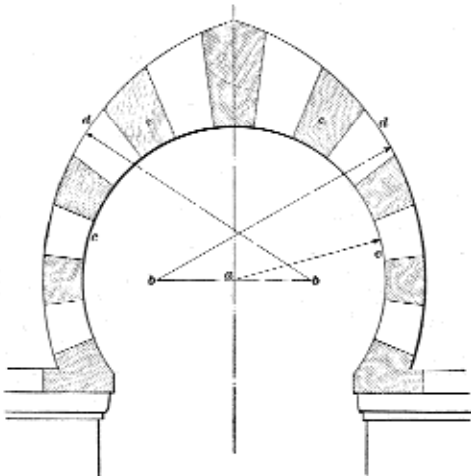

FIG. 53.
98. The *horseshoe*, or *Moorish*, arch is represented in Fig. 53. The Alhambra, at Granada, Spain, has some of